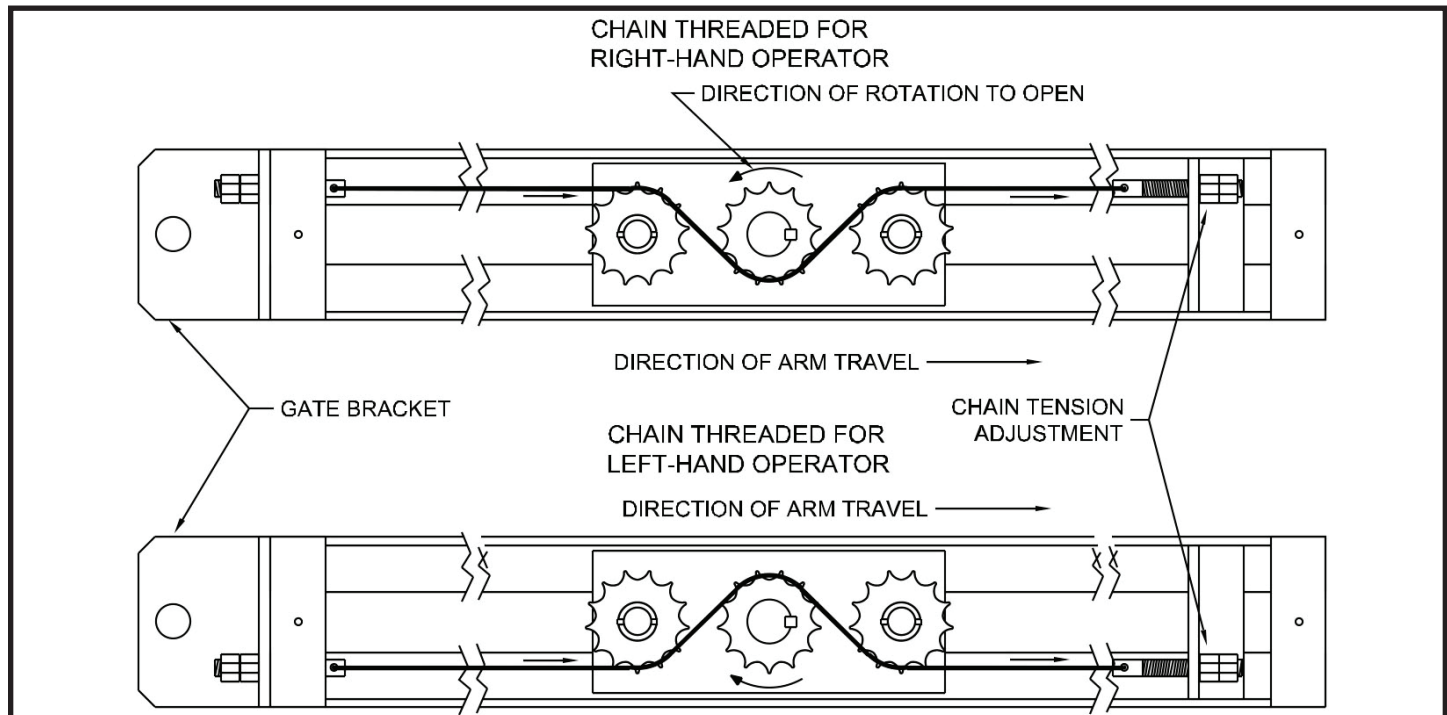

Figure 4. Gate Arm Assembly
Refer to Figure 4.
5. String the arm assembly chain as shown in Figure 4.
- ✓ **NOTE:** Observe the way the chain threads around the sprockets for left-hand or right-hand installations. Refer to Figure 4.